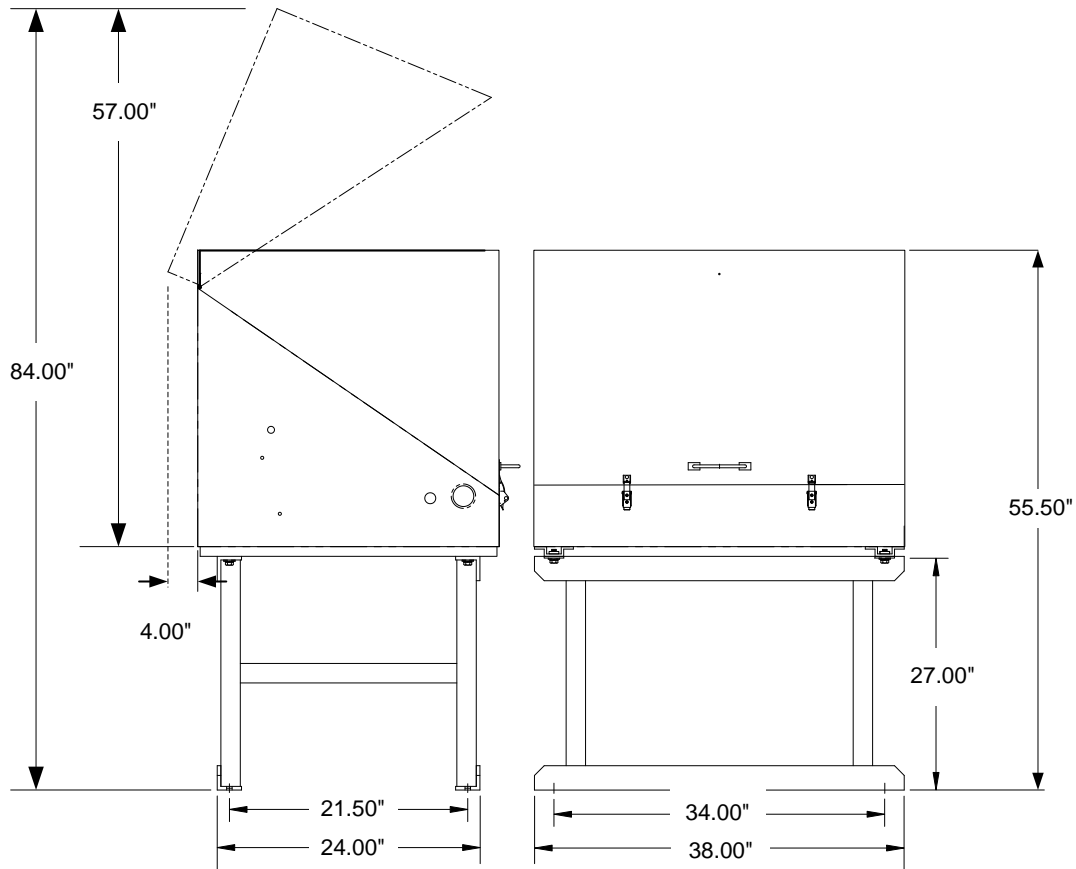

Figure 3-5 ENC82L–Enclosure Stand Installation
- 2) Set the enclosure on top of the stand, oriented so that the stand brace is horizontal with the front of the enclosure (see Figure 3-5).